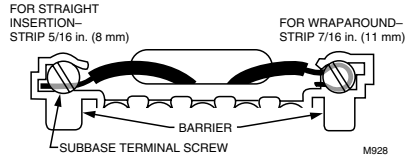
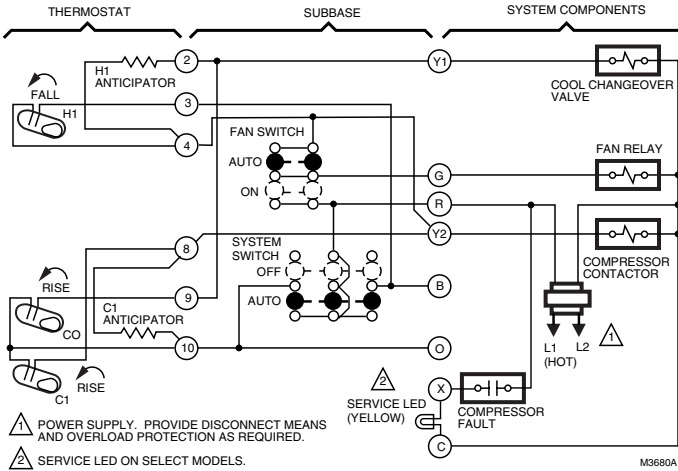

Fig. 3. Wiring connections.
Fig. 4. T874H/Q674C in heating-cooling system.
6. Connect the system wires to the subbase. See Fig. 4 through 9. A letter code for identification is located near each terminal. The terminal barrier permits straight or conventional wraparound wiring connections. See Fig. 3. Either method is acceptable. Run the wires as close as possible to the subbase, keeping the wire length to a minimum. Push the excess wire back into the hole. Plug the hole to prevent drafts.